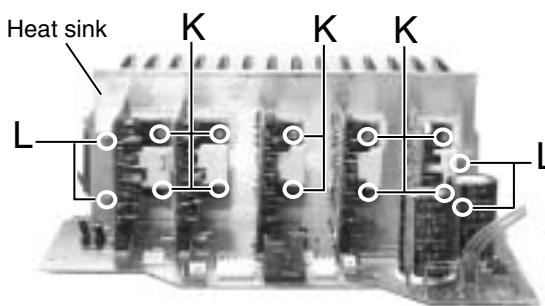

Fig.15
■ Removing the heat sink (See Fig.15 to 16)